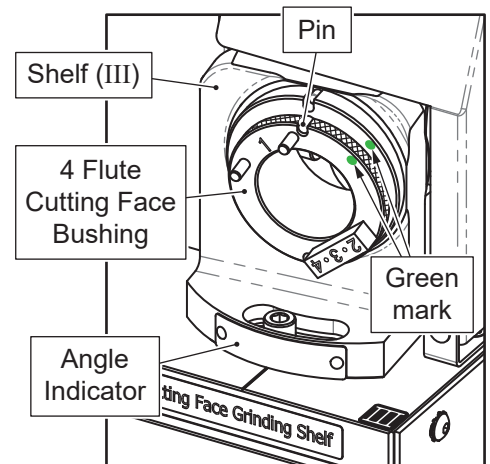

Fig. 14-3
3. Cutting Face Grinding Shelf (III) (Fig. 14-3)
- ① Adjust the Shelf (III) to 12° .
- ② Choose 4 Flute Cutting Face Bushing (12 deg).
- ① Adjust the Shelf (III) to 7° .
- ② Choose 4 Flute Cutting Face Bushing (7 deg).
- ① Adjust the Shelf (III) to 3° .
- ② Choose 4 Flute Cutting Face Bushing (3 deg).